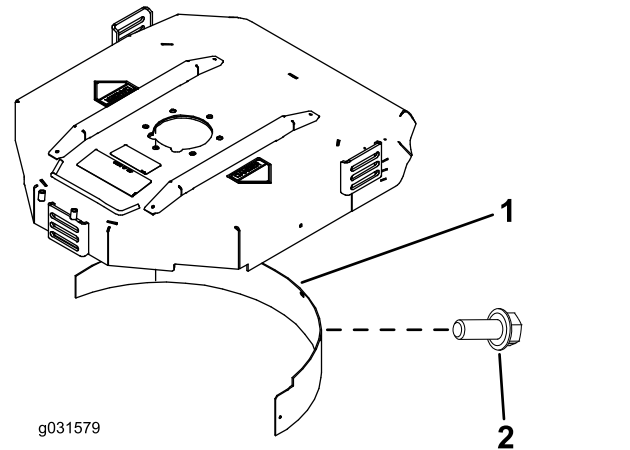

Figure 19
2. Install the mulching baffle in the rear opening and secure it with 5 flange-head bolts (Figure 19).